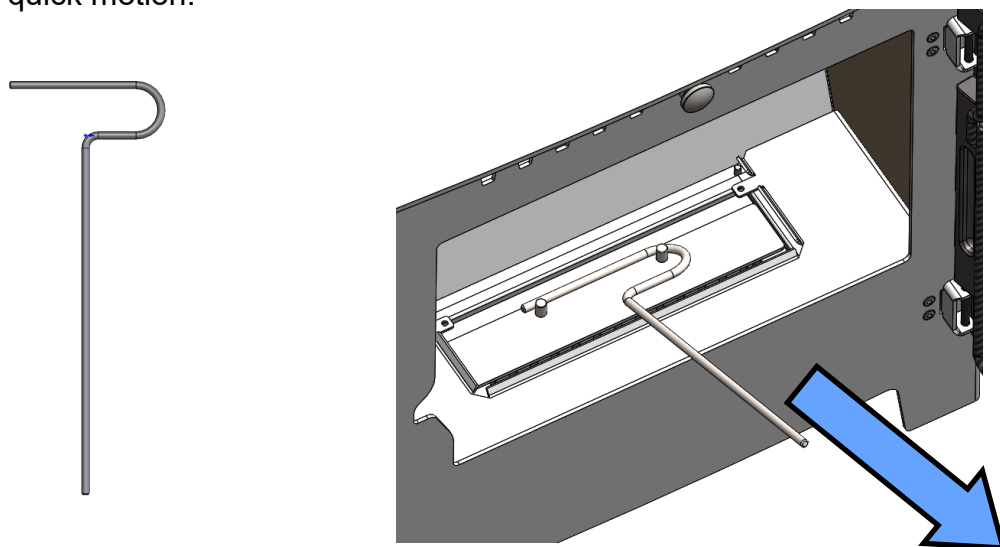

Fig. 20.
- Take the hook end of the operating tool and engage onto the two pins of the closure plate. See Fig. 20.